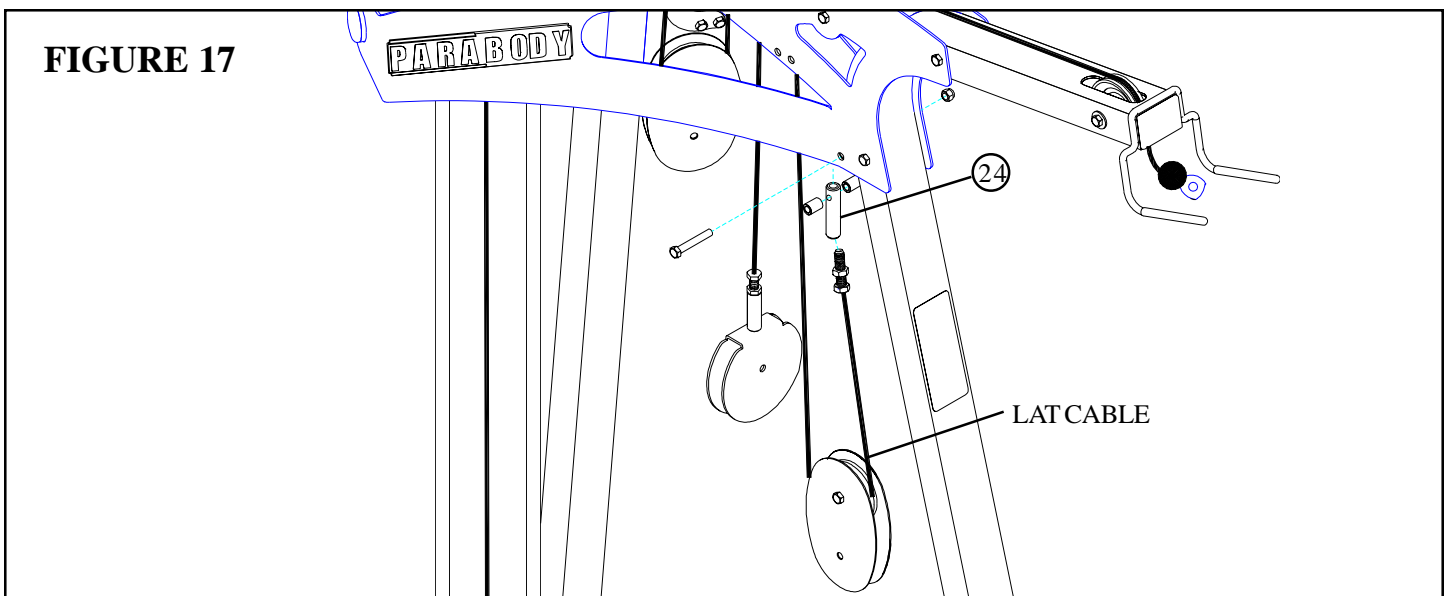

**FIGURE 16**
- Route the previously removed original LAT CABLE through the FRAME (1) and assemble one 3-1/2" PULLEY to the PULLEY PLATES using one existing 3/8 X 1-3/4" BOLT and one existing 3/8" LOCK NUT. See FIGURE 16.